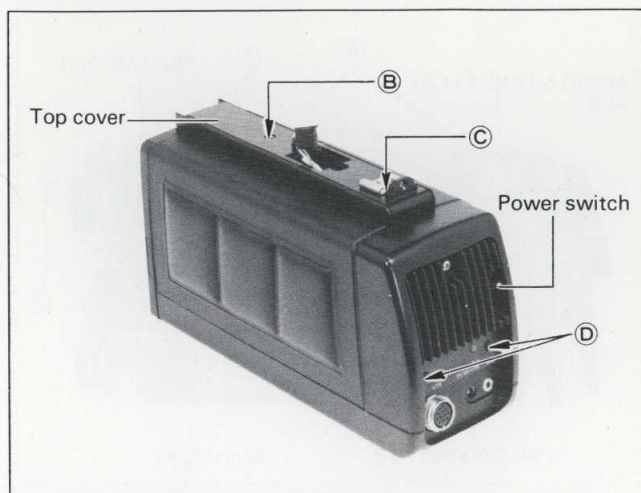

Fig. 9-3 Removal of the top cover and rear cover
The top cover and the rear cover can be removed by removing screws (B), (C) and (D) (x2), shown in Fig. 9-3. Remove the top cover first and then the rear cover.